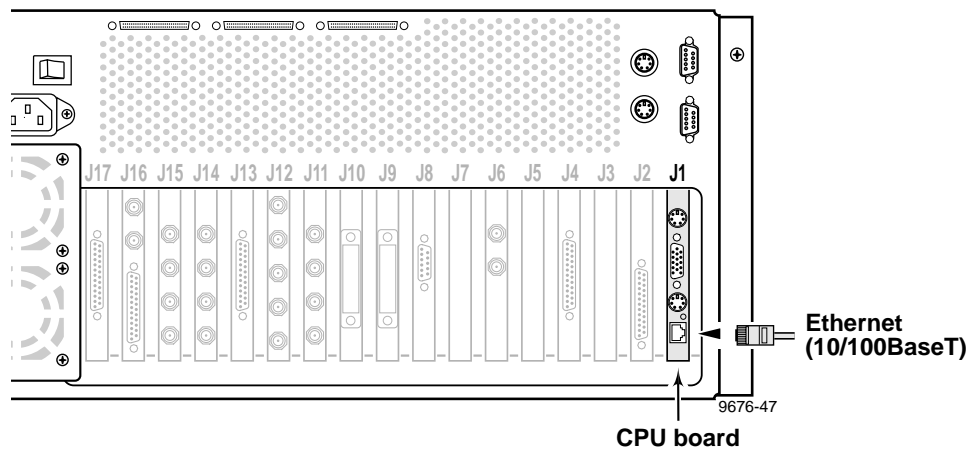

Figure 4-4. System Ethernet Connector
The Profile system supports an auto switching 10/100BASE-T Ethernet interface. Figure 4-4 shows the location of the 10/100BASE-T Ethernet interface connector on the System CPU board in slot J1. See Appendix B for connector pin-out information.
2. Connect the Ethernet cable to the Profile system Ethernet connector as shown in Figure 4-4.